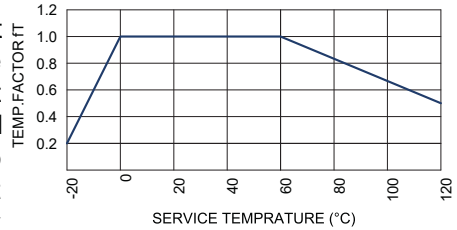

Fig.2 Temperature Factor
If the temperature of the screw nut exceeds the normal temperature range, the seizure resistance of the nut and the strength of the material will decrease. Therefore, it is necessary to multiply the dynamic permissible thrust (F) by the corresponding temp. factor indicated in Fig.2 .
- f_T : Temperature factor (see Fig.2)
- F : Dynamic permissible thrust (N)
- P_F : Axial load (N)